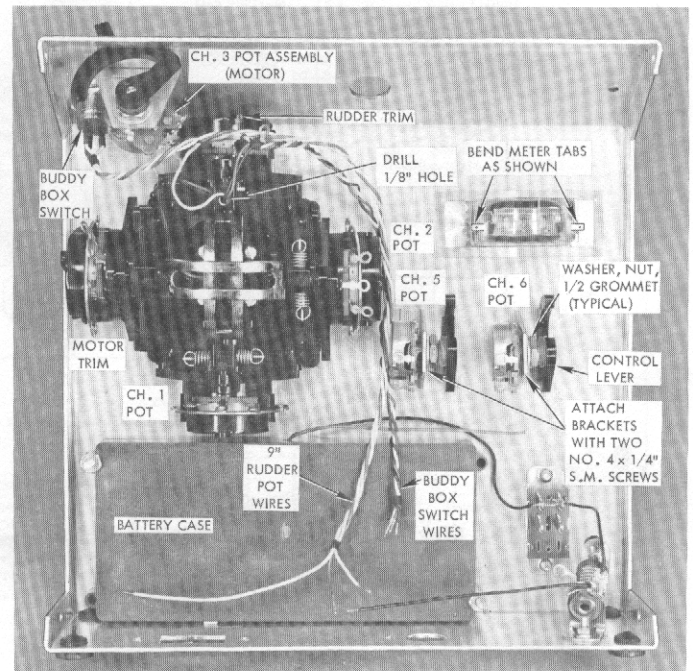

Figure 18. Interior View, Single-Stick Mechanics
- 150. Very carefully bend solder tabs on meter parallel with meter face. (See figure 18.)
- 156. On single-stick model, install stick assembly in same manner. Be sure centering springs on stick are located in positions shown (figure 18).
- 169. Drill a 1/8" hole in small mounting flange near rudder trim pot on single stick. (See figure 18.)
- 171. Feed these three wires through the 1/8" hole drilled in step 169. See figures 18 and 25 for wire routing. Be sure sufficient slack remains in wires to permit full stick movement without wire strain.